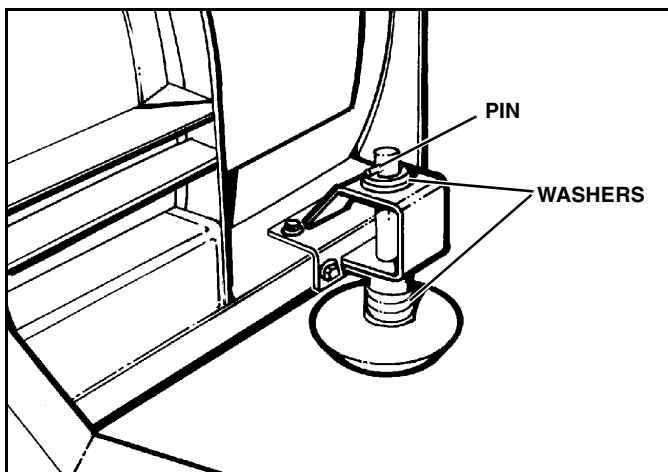

Figure 2-4
14. Adjust each Disk Shoe Assembly by removing Disk Shoe Mounting Pin and adding or subtracting Washers on the top or bottom of the Disk Shoe Mounting Bracket as required according to measurements taken in step #11 (See Figure 2-4)